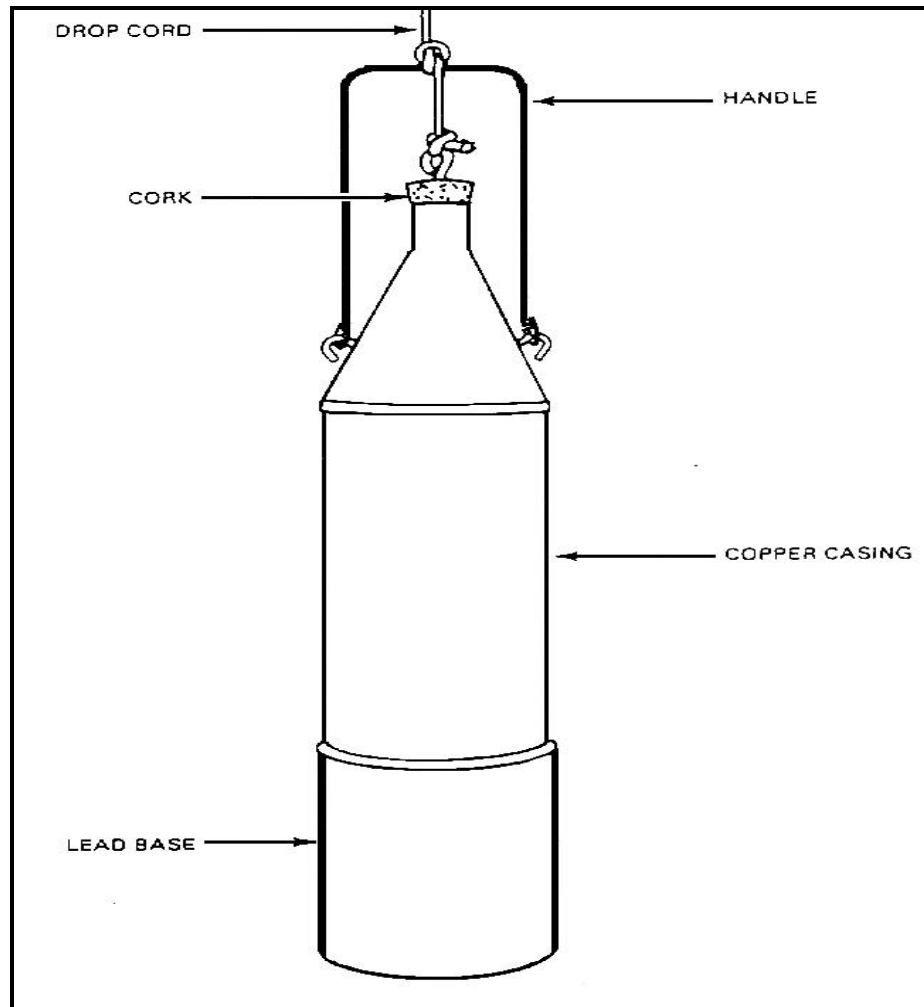

Figure 3-23. Weighted beaker sampler
- **Weighted Beaker.** The weighted beaker sampler (Figure 3-23) is a copper bottle permanently attached to a lead base. A drop cord or brass-coated chain is connected to the stopper so that the sampler can be opened anywhere beneath the surface of the product. This sampler is used to take upper, middle, lower, or all-levels samples of petroleum products at no more than 16 PSI Reid vapor pressure. It is used to take samples from tank cars, tank vehicles, barges, ship tanks, and shore storage tanks.